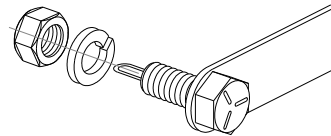

Fig. 9.
2. Find the Bolt Plate with welded 5/8" bolt P/N: 081703 in the hardware kit. Make sure that the 5/8" Hex Nut will thread on to the bolt and that the bolt will fit into the existing frame hole, see figure 6 page 6 and figure 9 this page.